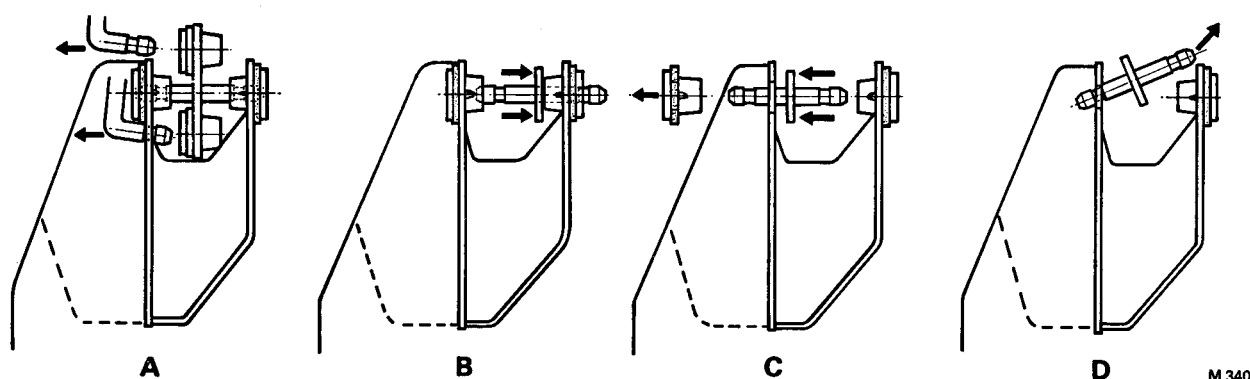

FIG. S12 REMOVING A PIVOT LEVER ASSEMBLY FROM THE FRONT DOOR BRACKET
13. To remove the pivot lever assembly from the door proceed as follows (*see Fig. S12*).